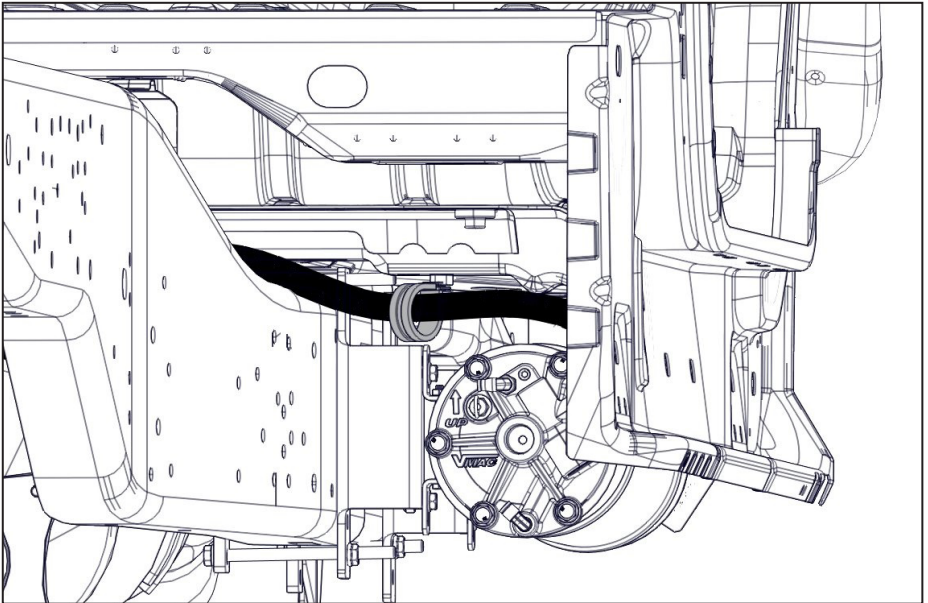

Figure 58 — Route discharge hose
- ☐ Route the discharge hose over the frame and secure the hose to the cross member using one of the supplied P-clips, the washer, and the M6 fastener (Figure 58).